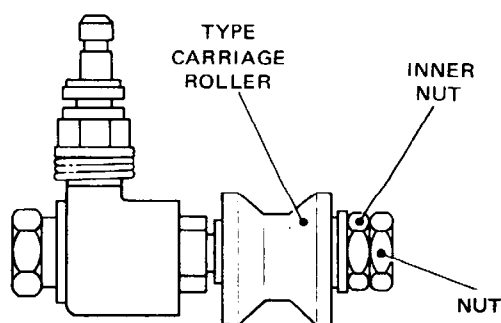

Fig. 4.9 LEFT-HAND TYPE CARRIAGE ROLLER ASSEMBLY
- 11.1 Check that both type carriage rollers, Fig. 4.9, are free to rotate and that their end-play does not exceed 0.004 inch.